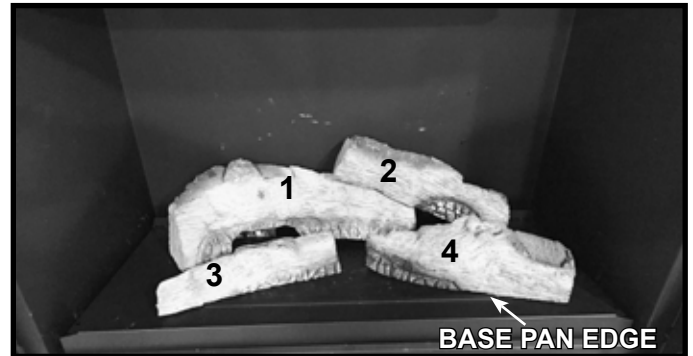

Figure 7. Install Right Front Base Log
5. Locate and install the right front base log (4) by installing the “left” end over the right burner pin and pressing “down” to engage the log pin. The “right” side of this log will be positioned by the front right hand bend tab. The face of the log should contact the base pan edge. See Figure 7.